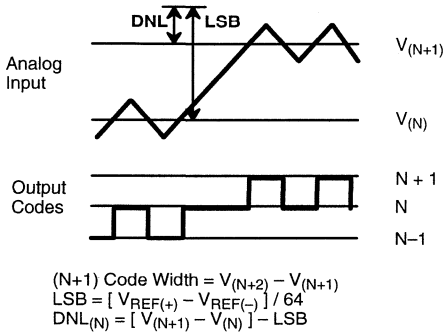
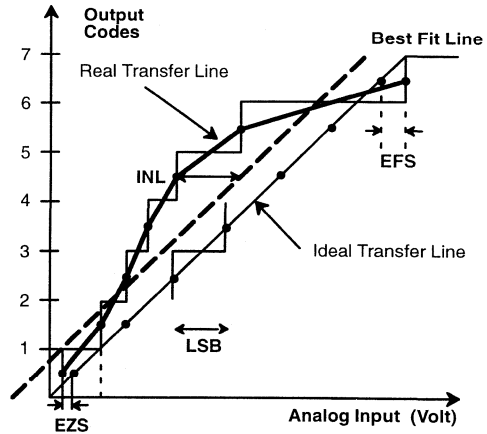

Figure 3. DNL Measurement
Figure 4. INL Error Calculation
- 1 Tester measures code transitions by dithering the voltage of the analog input (V_{IN}). The difference between the measured and the ideal code width ($V_{REF}/64$) is the DNL error (Figure 3). The INL error is the maximum distance (in LSBs) from the best fit line to any transition voltage (Figure 4). Accuracy is a function of the sampling rate (F_S).